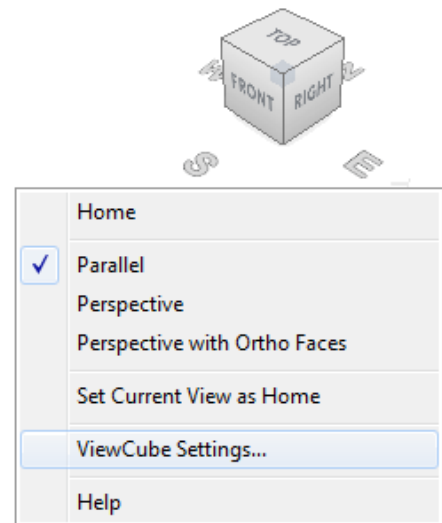

Figure Step 7
Step 7 Click the arrow again and click ViewCube Settings.... (Figure Step 7)